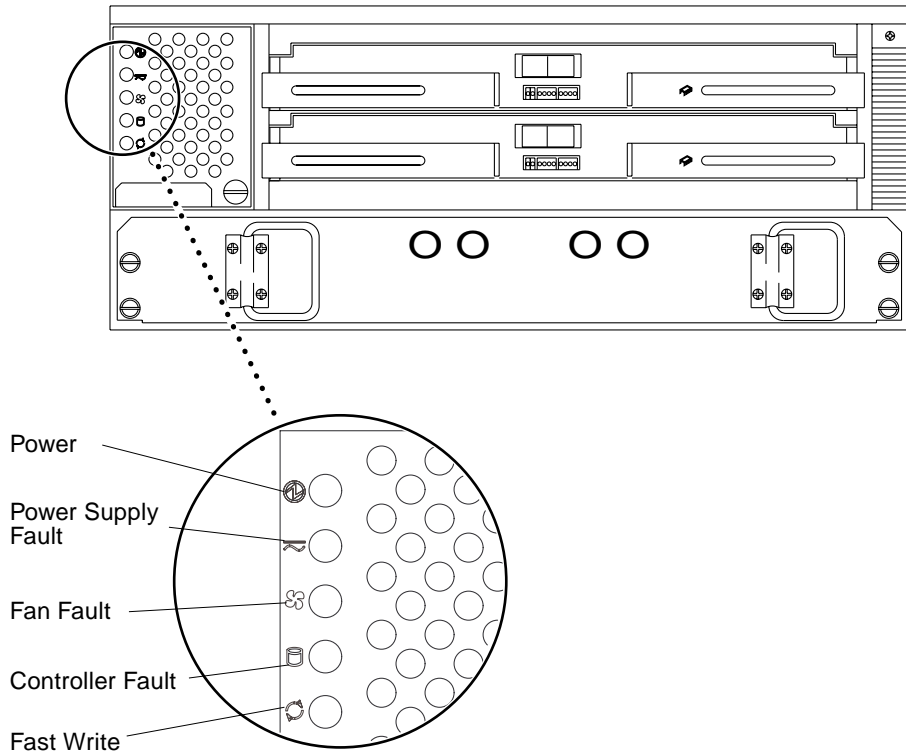

FIGURE 4-1 LEDs on the Front Panel
- Check the LEDs on the front panel (FIGURE 4-1).